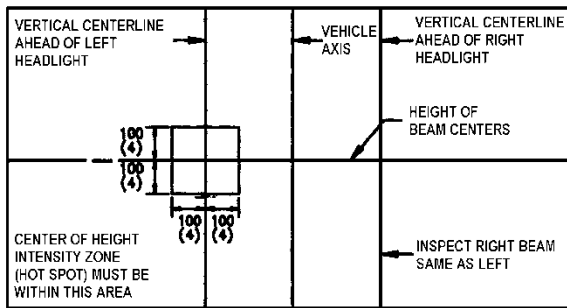

FIGURE 97: AIM INSPECTION LIMITS FOR UPPER-BEAM HEADLAMPS 06505
6. The inspection limits for high-beam headlamps shall be with the center of the high-intensity zone from 10 cm (4 in) up to 10 cm (4 in) down; and, from 10 cm (4 in) left to 10 cm (4 in) right on a screen at 7.6 m (25 ft) (Figure 97).